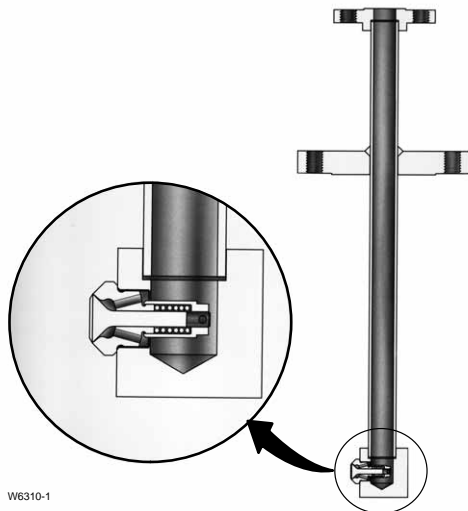

Figure 2. Design DMA/AF Desuperheater
- **Design DMA/AF**—A variable-geometry, mechanically atomized, back-pressure-activated desuperheater with one, two, or three spray nozzles is designed for applications requiring control over moderate load fluctuations. The Design DMA/AF desuperheater (figure 2) is installed through a flanged connection on the side of a DN200 (8-inch) or larger pipeline. Maximum unit C_v is 15.0.